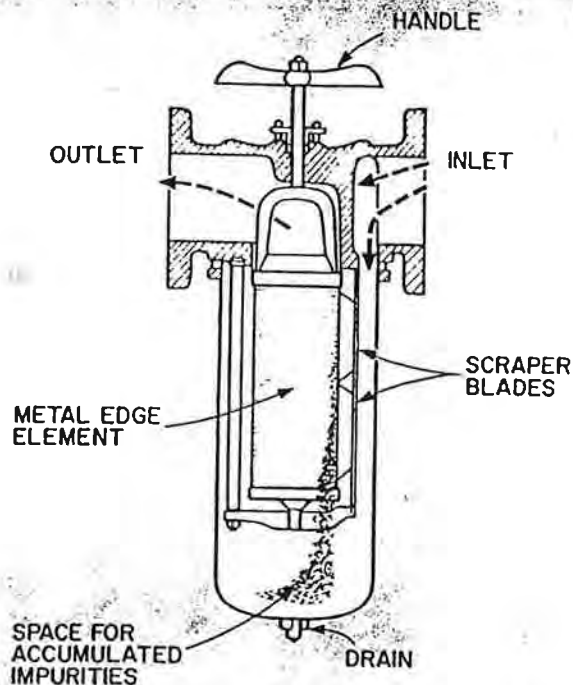

Fig. 9-5. Cross-section of edge-type filter.
9.16 Figure 9-5 shows a cross section of an EDGE-TYPE FILTER. This is called a FULL FLOW filter, meaning that all the oil in the system passes through it. The filter consists of a stack of discs with holes in their centers, like flat doughnuts, with little separation between them. Entering this filter, the oil passes down the outside of the stack. Before leaving the filter, the oil comes out of the center of the stack, having passed between the discs. Impurities in the oil are left behind on the outer surface of the stack. A cleaner blade in the filter moves around this outer surface, wiping off the impurities collected there. It is operated manually by means of the handle at the top of the filter housing. Impurities drop down into the sump portion of the filter. A plug at the bottom of the sump permits removal of sludge.